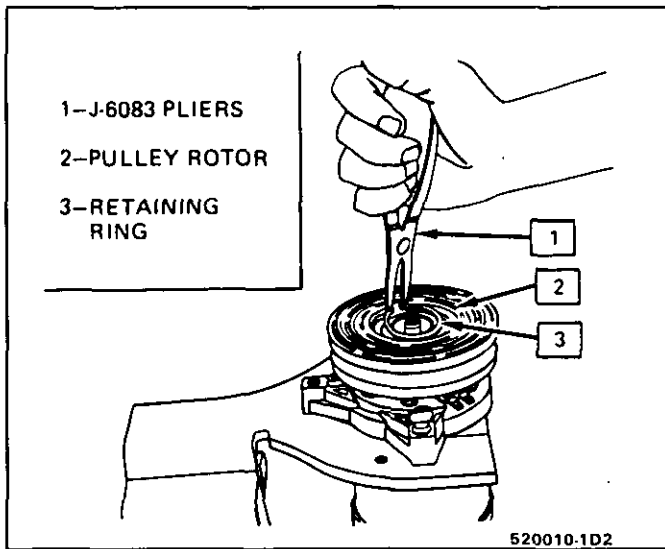

Fig. 10 Removing Pulley Rotor & Bearing Assembly Retaining Ring
2. Remove rotor and bearing assembly retaining ring, using snap ring pliers J-6083 (Fig. 10).
9. Install rotor and bearing assembly retainer ring, using snap ring pliers J-6083 (Fig. 10).